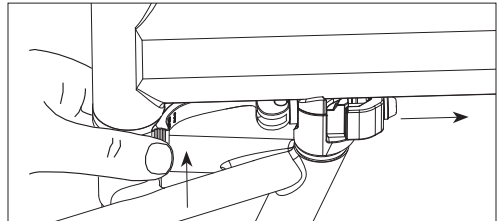

Fig. 36: Press and hold, quick release clamp opens
5. With your thumb, press and hold the knurled lever inward. This opens the quick release clamp. (Fig. 36).